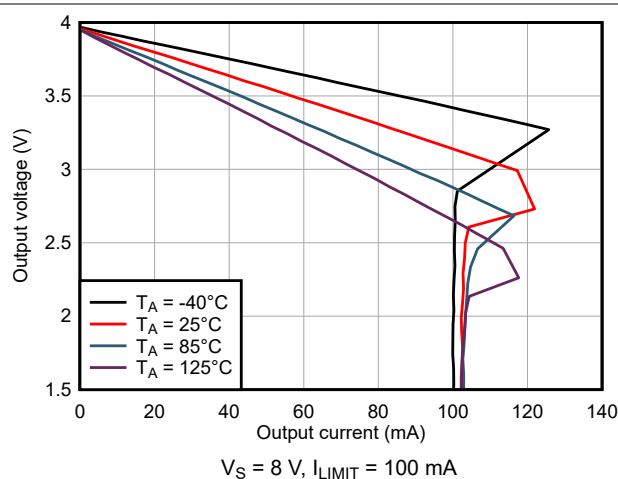

图 6-19. Output Voltage vs Output Sourcing Current
- (3) Proper output swing headroom is necessary to maintain current limit accuracy; see 图 6-19 to 图 6-34.